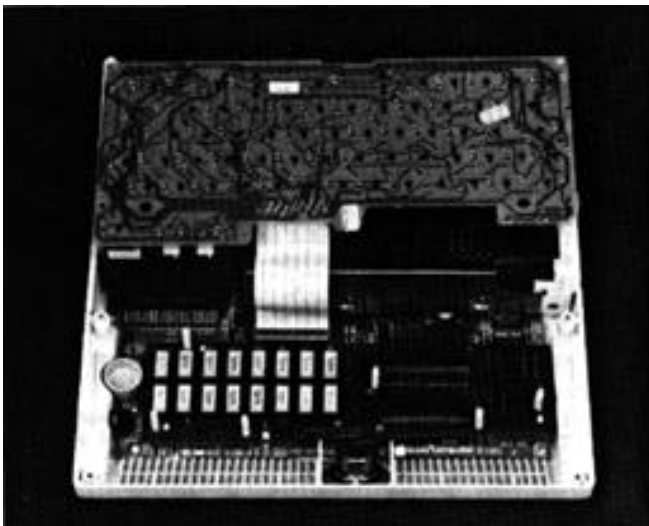

FIGURE 2.14
2. Reinsert the speaker jack. Place it through the round hole in the MultiRam C Card and push it over the two exposed pins. The //C should now look like Figure 2.14.